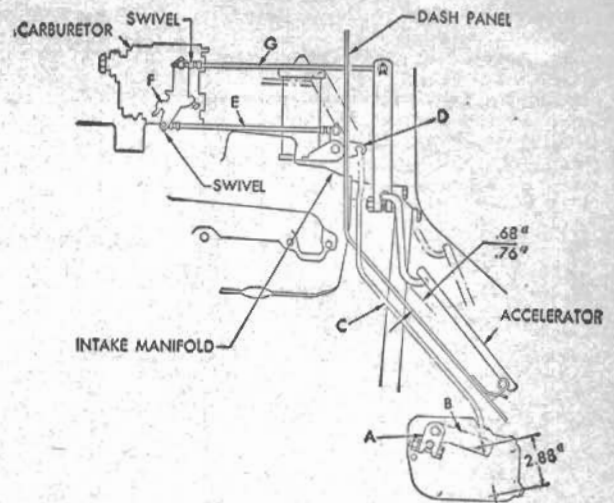

Fig. 24 Adjusting V8 (2-barrel carb.) throttle linkage. 1956 Powerglide
2. Disconnect rod C from lever B, Fig. 24.